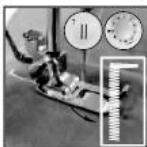

Fig.18
- Choose the stitch pattern #7, turn on switch and sew on the cloth in suitable length, then turn off switch. Note that try to keep sewn stitch in straight line (Fig. 18).